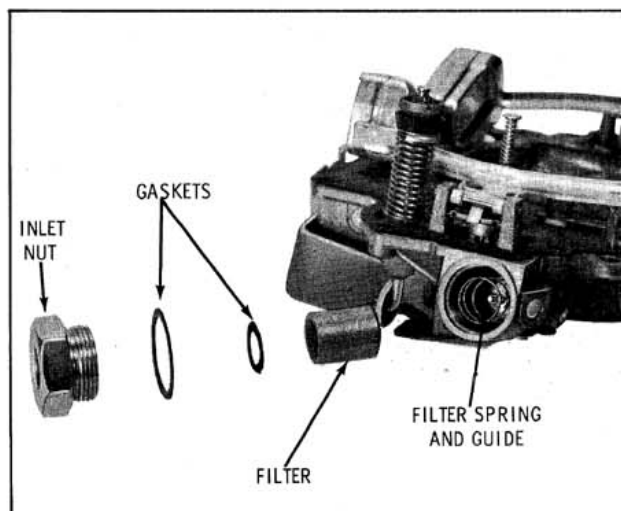

Fig. 4-49 Fuel Inlet Filter
2. Remove the fuel inlet nut and gasket, then remove the filter, and gasket between filter element and back side of inlet nut. (Fig. 4-49)